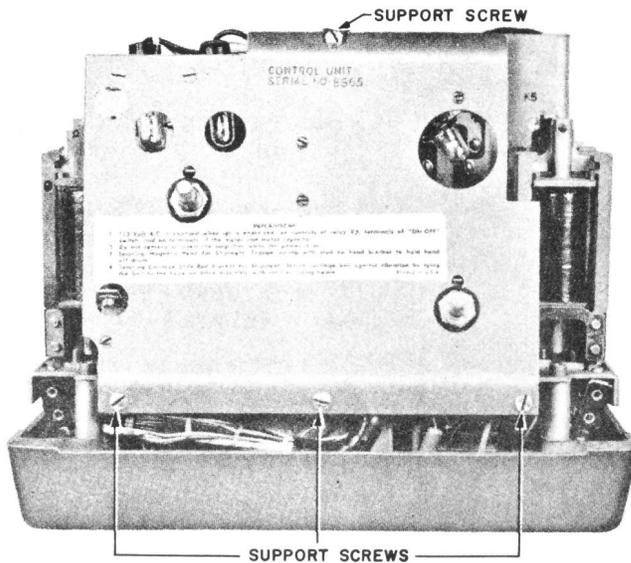

Fig. 7 - Control Panel Support Screws
1.10 The control panel is held in place by four captive screws in front of set (Fig. 7).